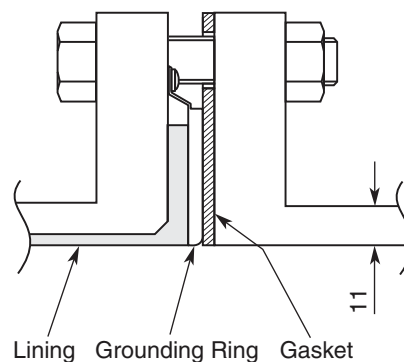

Figure 29. Installation on PVC Pipe with 316 ss Grounding Ring
1. Use this method to install the flowtube to the specified fastening torque. Install the flowtube as shown in Figure 29. The torque level for tightening the bolts is not related to the gasket material. See Table 2 for the appropriate torque. For the internal diameter of the gaskets, see Table 3.